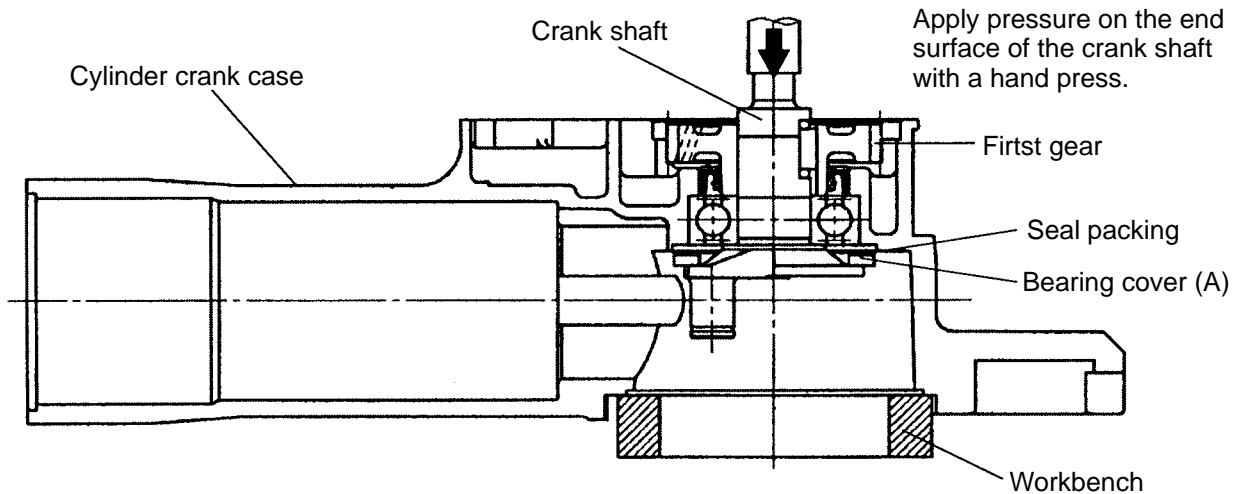

Fig. 14
Remove the grease from the Connecting Rod [29] side and the First Gear [50] side of the Cylinder Crank Case [45]. Remove the two Seal Lock Hex. Socket Flat Hd. Bolts M5 x 12 [40] fixing Bearing Cover (A) [41] and the Seal Packing [42]. Then place the Connecting Rod [29] side of the Cylinder Crank Case [45] downward on a workbench and apply pressure on the end surface of the Crank Shaft [38] with a hand press to remove the First Gear [50] and the Crank Shaft [38] (Fig. 14). Before removing them, make sure that the two Seal Lock Hex. Socket Flat Hd. Bolts M5 x 12 [40] fixing Bearing Cover (A) [41] and the Seal Packing [42] are removed.